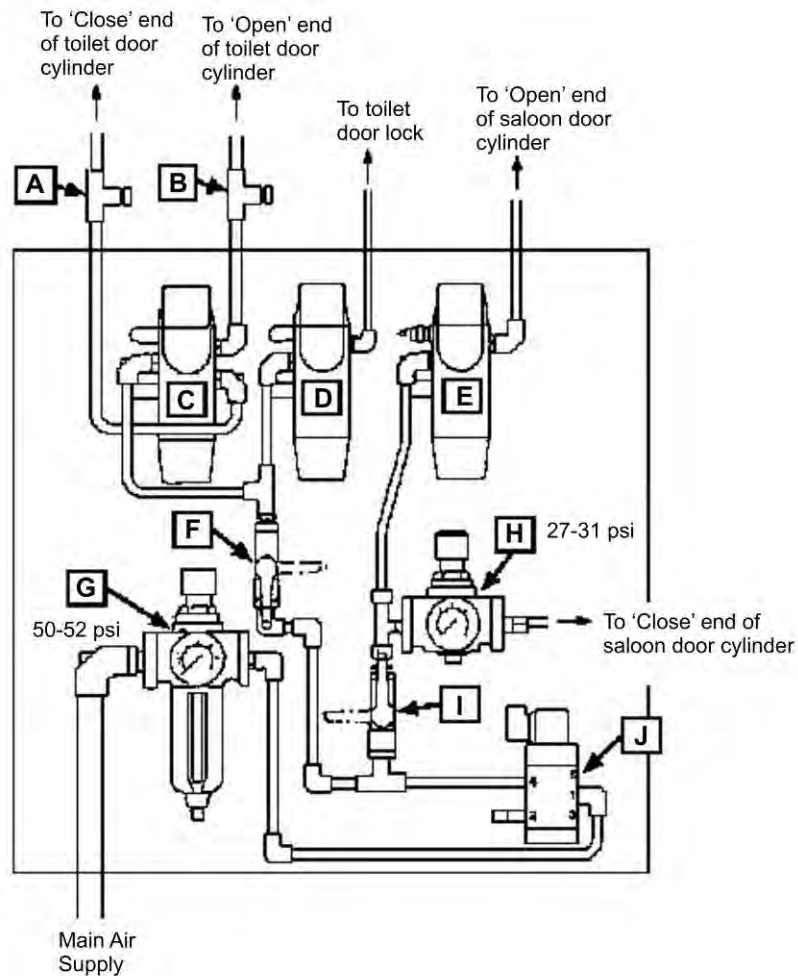

Figure 2: Lower Pneumatic Panel
- i) In the lower (pneumatic) control box (see Figure 2), check that:
In the lower (pneumatic) control cupboard (see Figure 2), check that the pressure gauges read: